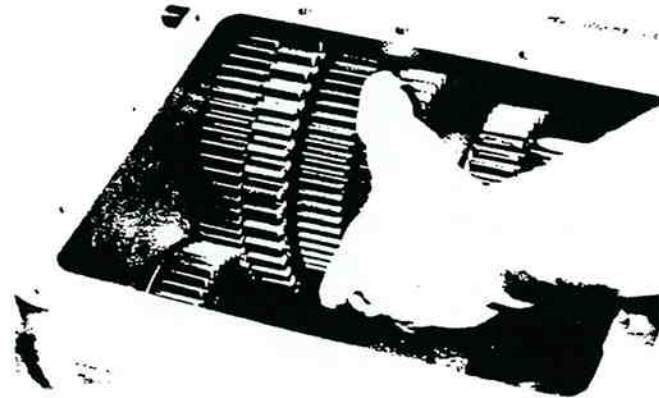

Figure 13-139. Positioning Countershaft Assembly.
1. Move the right countershaft assembly as far as possible toward case wall (figure 13-139).